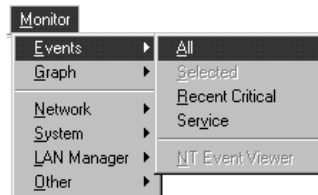

Figure 8-15 Event Monitor Menu
1. From the NetView main menu, select **Monitor, Events, All** (Figure 8-15).